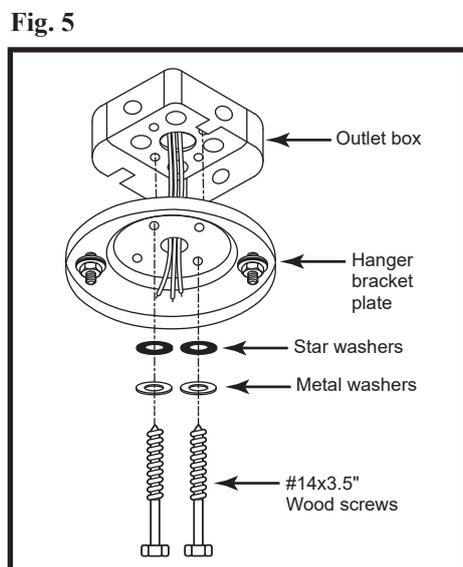

Fig. 6
2. Secure hanger bracket to hanger bracket plate using the two hex nuts and washers provided, make sure nuts are securely tighten. (Fig. 6)